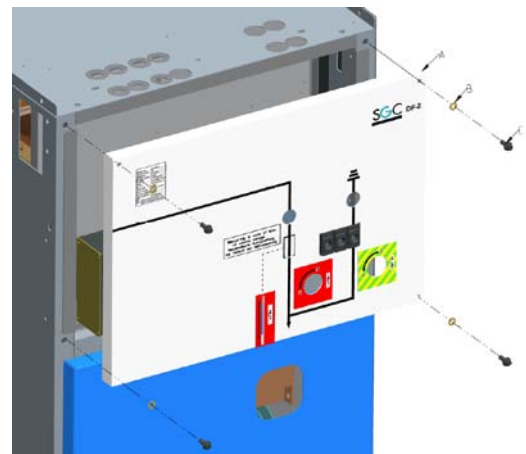

Figure 11: Disassembling front panel of DF-DT(G)
- Disassemble the front panel (Figure 11): Unscrew the 4 hexagonal tap bolts (C). Remove the 4 spring washers (B). Remove the front panel (A). The control and low-voltage compartment is now accessible.